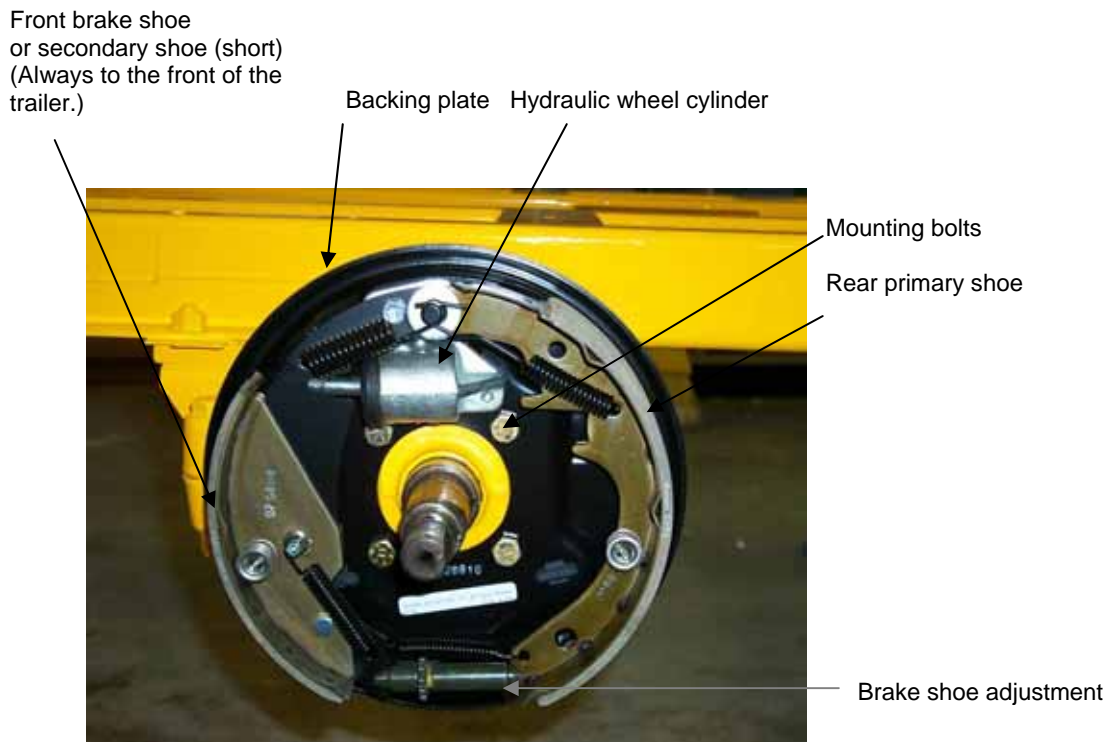

Figure 16. Mounted view of complete brake assembly.
- Visually inspect brake shoes every 48,280 km (30,000 mi) or at least once a year (figure 16). FWD units in the LTPP program should be checked at 40,234 km (25,000 miles) or 6 months. If brake shoes are worn and need replacing, the drums should be turned or replaced. When new shoes are replaced, verify that the hydraulic wheel cylinder is not leaking or showing signs of seepage. If it is, replace it, and bleed the brakes.